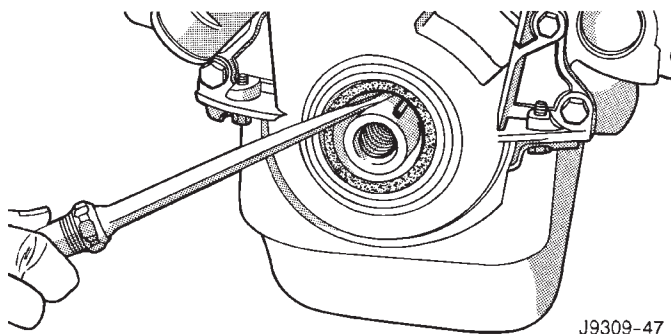

Fig. 23 Removal of Front Crankshaft Oil Seal
(1) Disconnect the negative cable from the battery.
(2) Drain cooling system (refer to Group 7, Cooling System).
(3) Remove the serpentine belt (refer to Group 7, Cooling System).
(4) Remove water pump (refer to Group 7, Cooling System).
(5) Remove power steering pump (refer to Group 19, Steering).
(6) Remove vibration damper.
(7) Loosen oil pan bolts and remove the front bolt at each side.
(8) Remove the cover bolts.
(9) Remove chain case cover and gasket using extreme caution to avoid damaging oil pan gasket.
(10) Place a suitable tool behind the lips of the oil seal to pry the oil seal outward. Be careful not to damage the crankshaft seal surface of cover (Fig. 23).